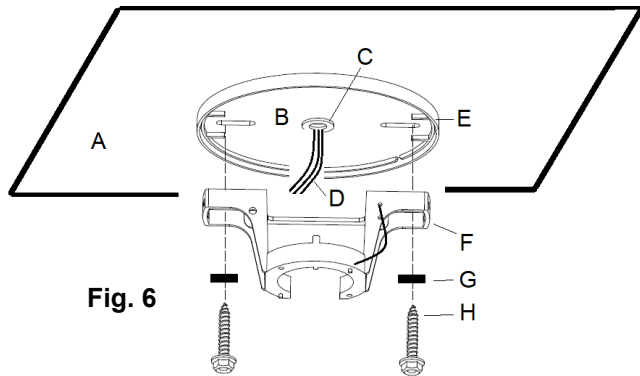

Fig. 6
- Pass the power supply wires and ground wire (D) from the ceiling outlet box (B) through the grommet (C) of the canopy cover (E).
- Attach the mounting bracket (F) to the canopy cover (E).
- Install the ceiling mounting bracket (F) and the canopy cover (E) on the outlet box (B) with the mounting screws (H) provided with the outlet box and washers (G) provided with fan. **Fig. 6**